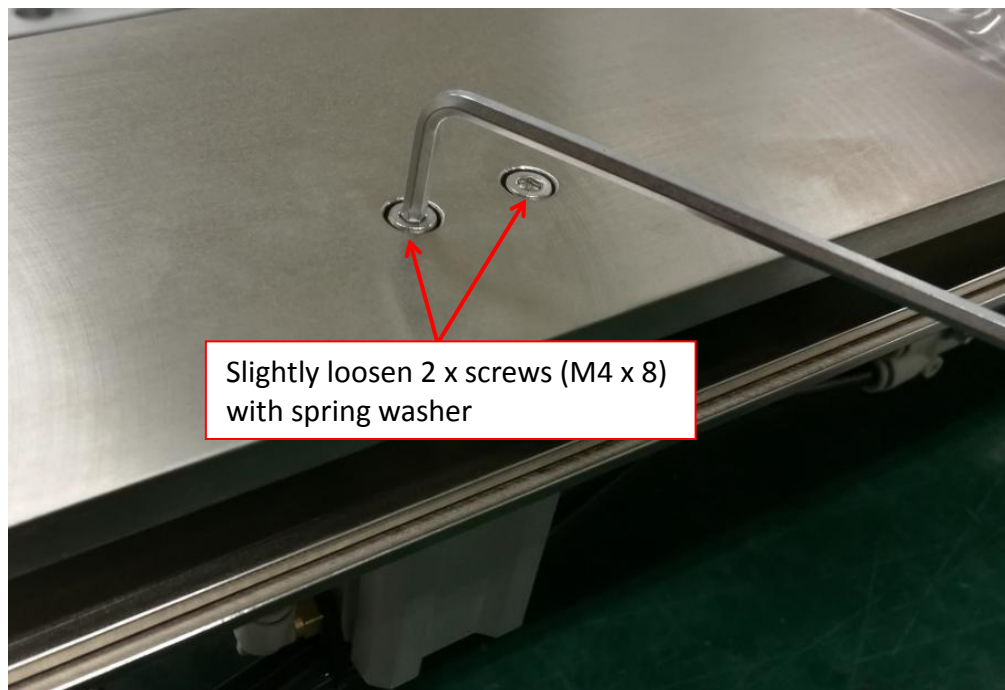

Figure 15 Screw Fastening
- a) Slightly loosen 2 x Screws (M4 x 8) with spring washer as shown in Figure 15.